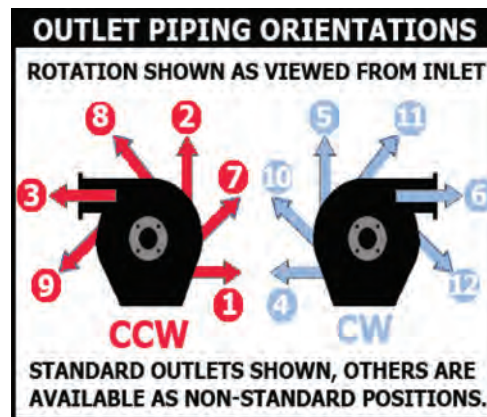

FIG. 1-2
- Piping discharge orientation can be customized per installation to help facilitate installation. See **fig. 1-2** for available options.